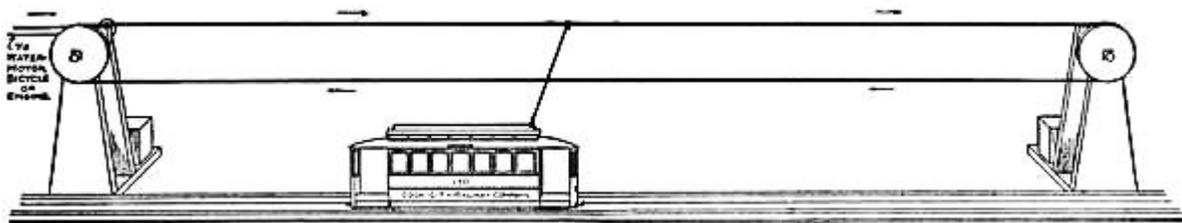

FIG. 355.—The Toy Railway in Operation.
Figure 355 shows a railway set up and in running order. As shown in the illustration,
**Operation of the Railway**, and though Fig. 355 probably shows sufficiently clearly how it is run, a few words may be helpful. The car or cars are placed between the wooden tracks, and the trolley (or cord attached to the ring on top of the car) is tied to the trolley-line as